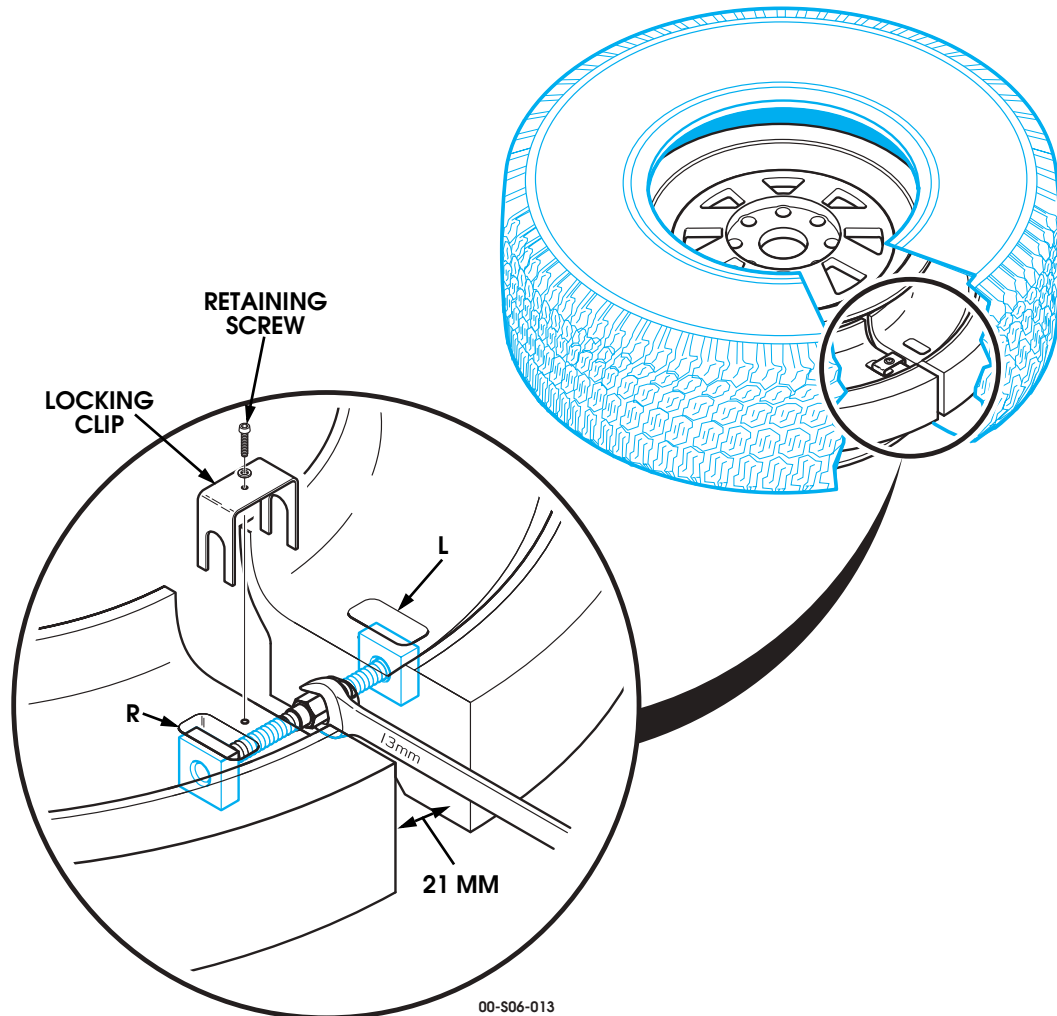

Figure 6-25: Runflat Assembly
3. Install the right and left square nuts in the recesses of one pair of runflat ends. When looking across the runflat to the opposite side, the "R" square nut should be in the right recess and the "L" square nut in the left recess (Figure 6-25).